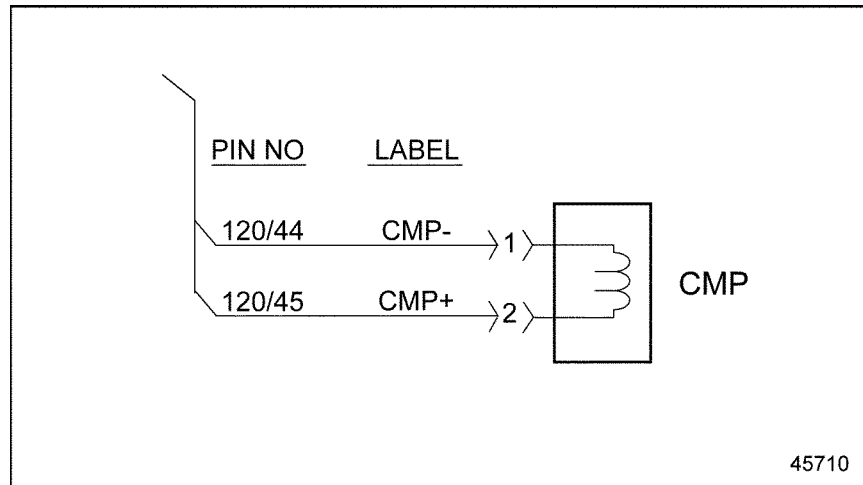

Figure 77-1 MCM — Camshaft Position Sensor Schematic
2. Measure the resistance across pins 1 and 2 of the CMP Sensor. See Figure 77-1.